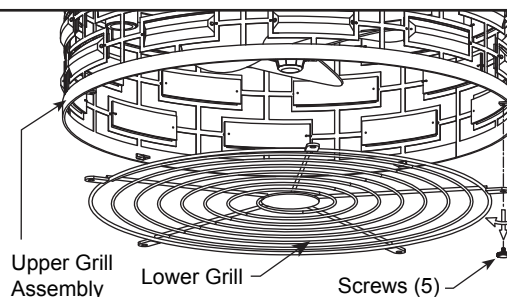

Figure 2
1. Remove the five screws and carefully remove the lower grill from the upper grill assembly. Retain the screws and lower grill for Step 3. (Figure 2)